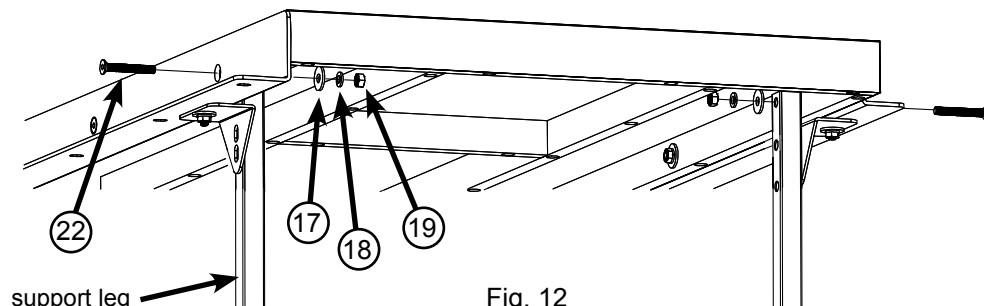

Fig. 12
12. The support legs attach to the outer ends of the rails and extension table with M8 x 65 countersunk socket head bolts. Align the top hole in one support leg with the outermost hole in the front rail, and the top hole in the second support leg with the outermost hole in the back rail. Make sure the legs are positioned against the inside of the extension table. Insert an M8 x 65 bolt through the holes in the rails, extension table and legs. Place an M8 washer and an M8 lock washer on the threaded end of each bolt and then thread an M8 hex nut onto each bolt (see Fig. 12). Hand tighten the nuts; do not fully tighten them.